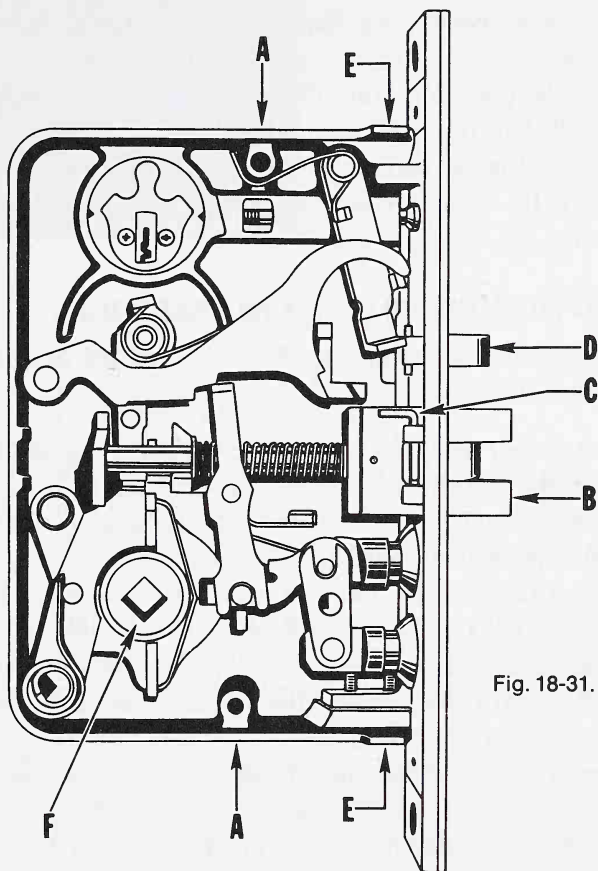

Fig. 18-31.
1. Refer to Fig. 18-31. Unfasten the two cap screws (A) and remove the cap.